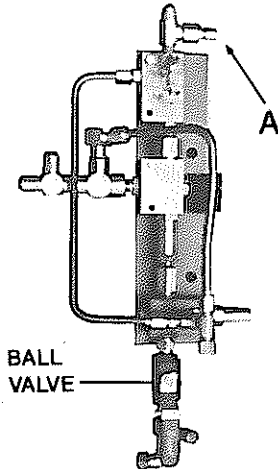

Fig. 50
2. Remove the ¼ inch JIC cap on gauge port (A), see Fig. 50.
3. Connect a 5,000 p.s.i. hand-held gauge onto the tension gauge port (A).